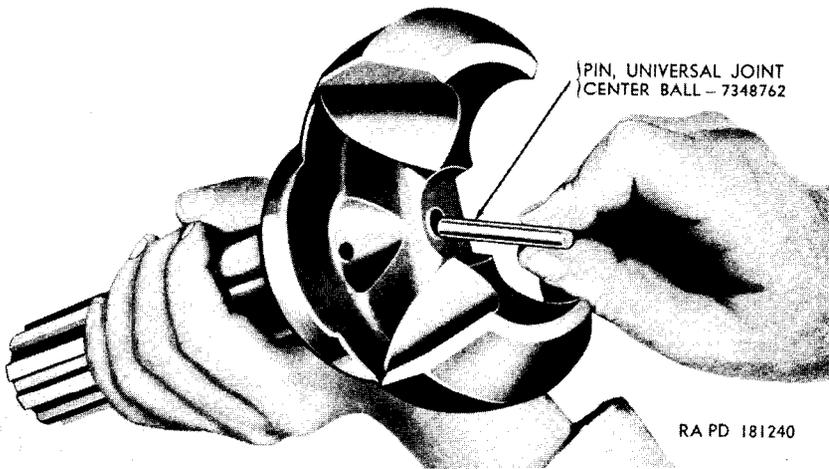

Figure 104. *Installing front axle universal joint center ball pin.*
- (2) *Install universal joint drilled center ball.* Insert the universal joint center ball pin (fig. 104) in hole of outer axle shaft. Secure outer shaft in vise. Place the universal joint drilled center ball in its race, on universal joint center ball pin hole, with groove of ball facing away from pin hole. Place the inner axle shaft over the outer axle shaft.